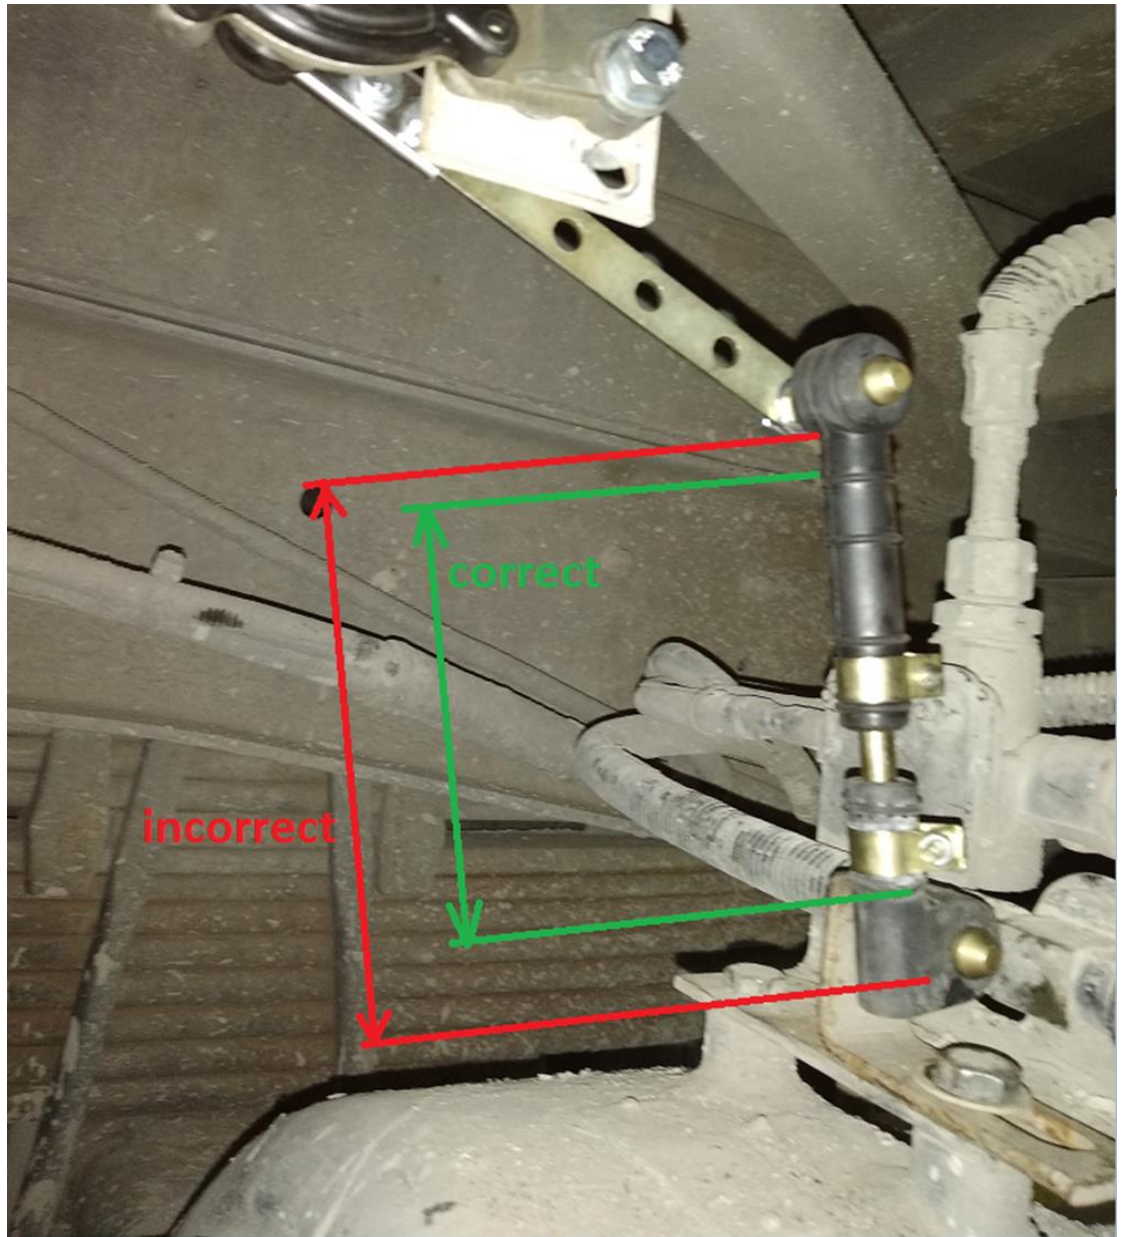

fig. 3.4. Correct and incorrect use of elastic elements
- Do not push the rod too deep into the elastic elements (fig. 3.4). The rod is fixed with pins through the elastic elements to the attachment point of the unsprung weight and the lever.